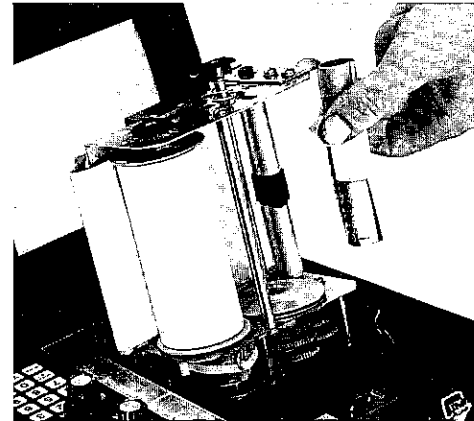
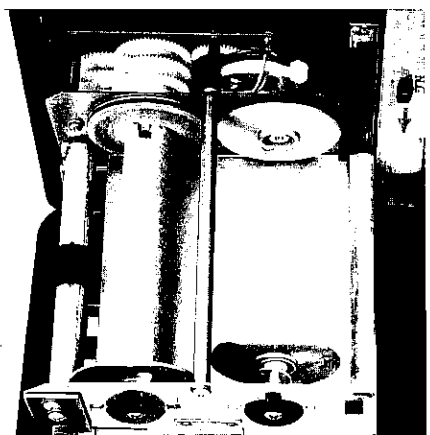

Figure 32
Figure 30
8. Draw the end of the paper across the face of the platen, around the metering roller, and tape it squarely to the take-up core. (See Figure 32.) Roll several inches of the paper around the core before installing the take-up core into the transport. Align the two notches in the core with the tabs on the lower take-up spool. (See Figure 30.) Push the paper retainer knob in and rotate it until it locks into place.